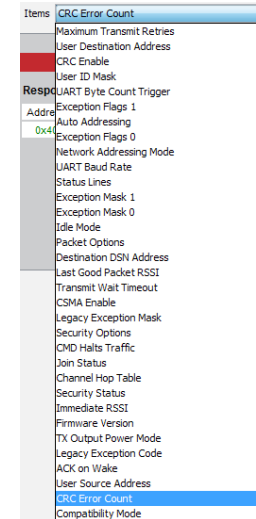

Figure 23: The Master Development System Software Command Set Tab Items Menu
4. The Items drop down menu displays all of the items that are available for the active module (Figure 23). Selecting one of the items from this menu automatically fills in the Command box. The values can be adjusted by typing in the box.